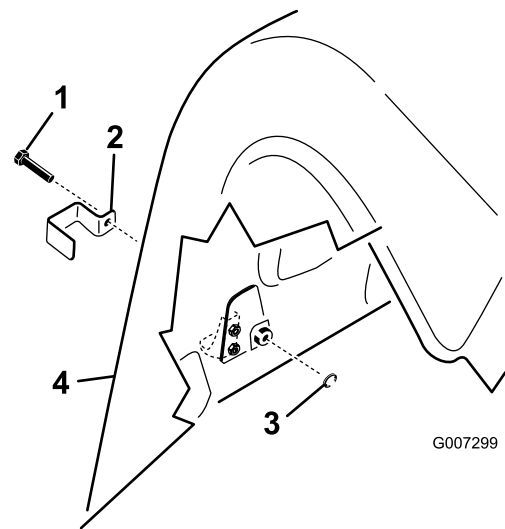

Figure 15
1. On the ProCore 864 model, install a lock bracket over the left and right rear lower hood and upper hood latches with a tap bolt (four total) (Figure 15).
2. On the ProCore 1298 model, install a lock bracket over all the rear lower hood latches and the outside upper hood latch on both right and left rear covers with a tap bolt (three per coring head, six total) (Figure 15).
3. Using a pliers or adjustable wrench, thread an internal lock washer onto each bolt (1-2 threads) to secure latch (Figure 15).